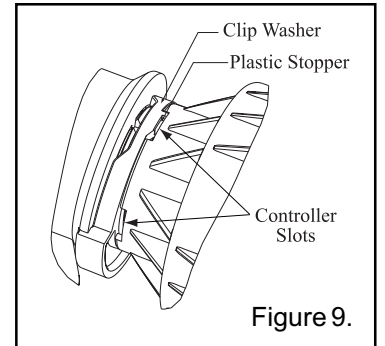

Figure 9.
16. For safety purposes, ensure that plastic stopper in clip washer is within one of the slots in the controller. This will prevent the controller from coming loose unexpectedly, see Figure 9.
- For safety purposes, ensure that plastic stopper in the clip washer is within one of the slots in the controller. This will prevent the controller from coming loose unexpectedly, see Figure 9.